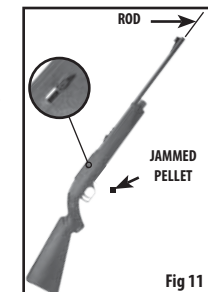

Fig 11
- Press downward and forward on the barrel latch tabs (Fig. 11)
- Insert a rod (not included) in the barrel and push the jammed pellet into and out of the pellet magazine area of the rifle. Do not try to reuse any jammed pellets (Fig. 11)